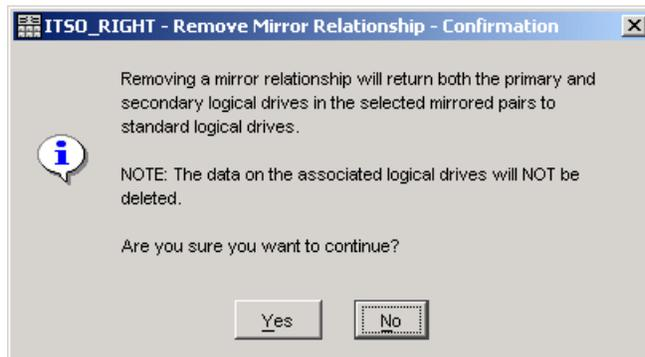

Figure 8-61 Remove Mirror Relationship - Confirmation
2. Select the mirrored logical drive pairs for which you wish to remove the mirror relationship. To select multiple mirrored pairs, use the Ctrl or Shift key in combination with the mouse click. To select all of the mirrored pairs, click the **Select All** button. Click **Remove**. The Remove Mirror Relationship - Confirmation dialog is displayed (Figure 8-61).